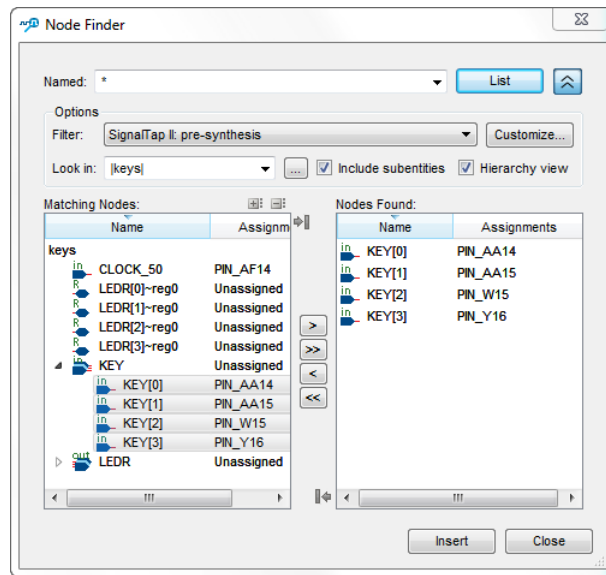

Figure 8. Adding nodes in the Node Finder window on a DE-series board.
3. We now need to add the nodes in the project that we wish to probe. In the Setup tab of the SignalTap II window, double-click in the area labeled Double-click to add nodes, bringing up the Node Finder window shown in Figure 8. Click on  or  to show or hide more search options. For the Filter field, select SignalTap II: pre-synthesis, and for the Look in field select [keys]. Click List. This will now display all the nodes that can be probed in the project. Highlight KEY[0] to KEY[3], and then click the  button to add the keys to be probed. Click Insert to insert the selected nodes, then Close to close the Node Finder window.